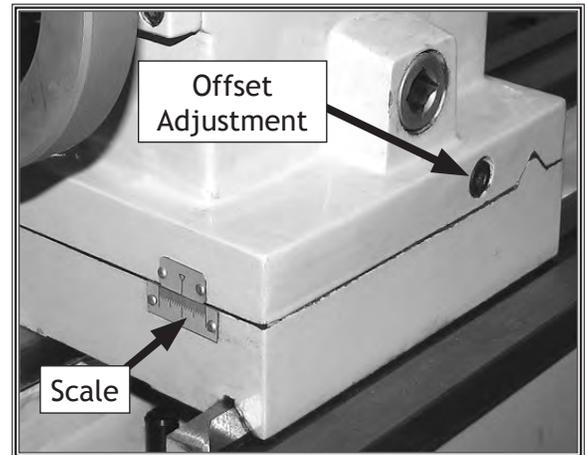

Figure 53. Right offset adjustment.
2. Alternately loosen and tighten the left and right offset adjustment screws until the desired offset is indicated on the scale (**Figure 53**).